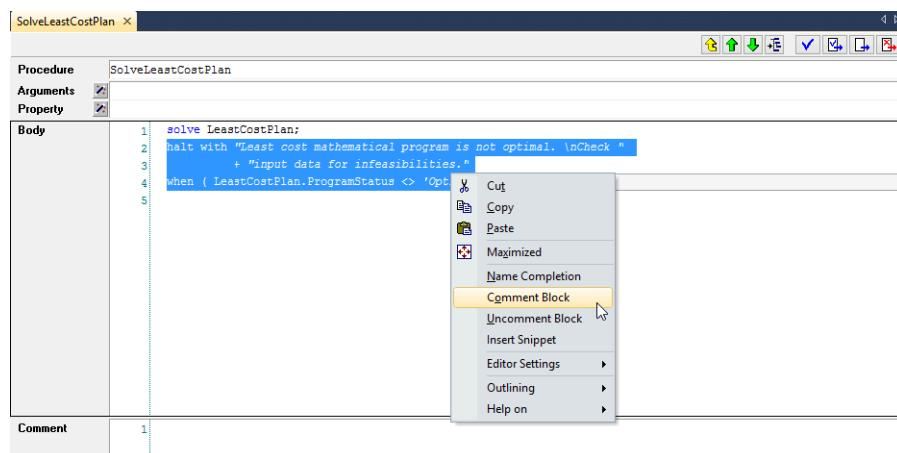

Figure 14.8: Commenting out the `halt` clause
- ▶ select the 3 lines of the halt clause of the solve statement, as illustrated in Figure 14.8,